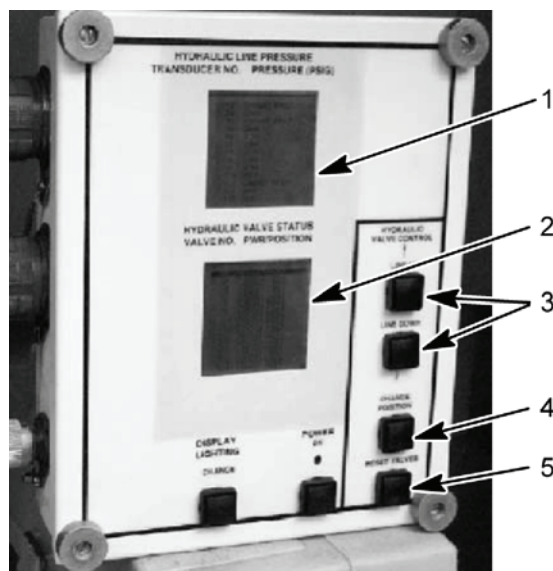

Figure 24. HDC Control Box
- Repeat the previous steps for main relief valve 13R using the right-hand SUSPENSION CONTROL lever and observe transducer T-3 hydraulic pressure on the HDC display (Figure 24, item 1).
- Enable ejector by manually opening ejector inhibit ball valve V23 (Figure 25, item 1) on the DCV bank. Using LINE UP or LINE DOWN button (Figure 24, item 3), select V1 on HDC display (Figure 24, item 2). Open V1 on the HDC display (Figure 24, item 2) by selecting the CHANGE POSITION button (Figure 24, item 4) on the HDC control box.